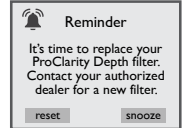

Figure 15.0e
23. ProClarity Depth Filter Reminder: This message will appear when the filter reminder time has expired (Figure 15.0e). The ProClarity Depth filter must be replaced.